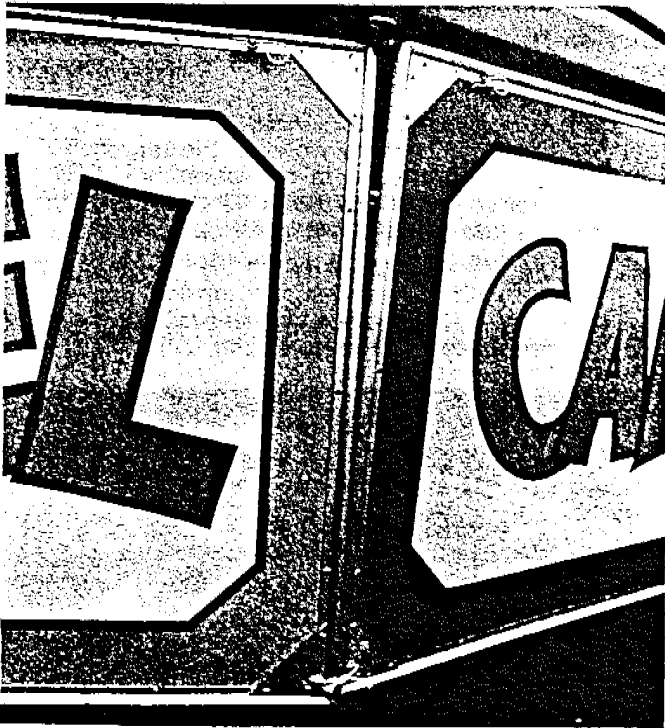

Fig. 19
- Install the ballys on the mounting ears around the bottom of the main platforms. SNAP KEY IN PLACE. (Fig. 19)